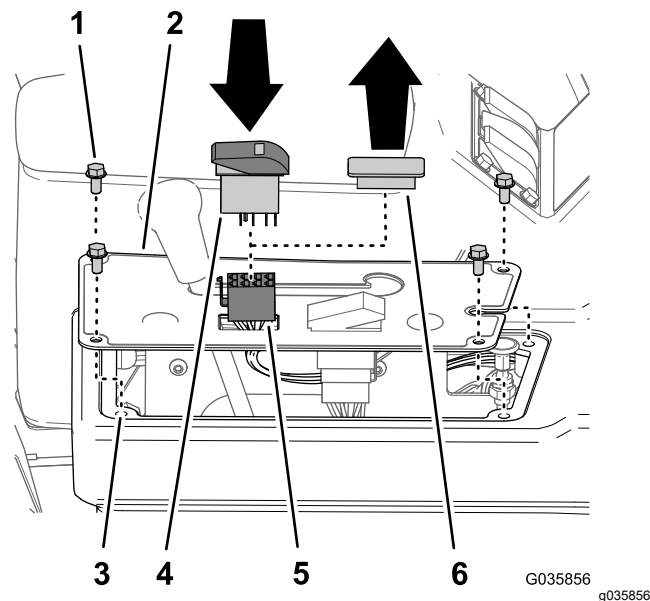

Figure 21
- If installed, remove the 4 flange-head bolts (1/4 x 1/2 inch) that secure the panel cover to the top of the console as shown in Figure 21.
- Remove the switch plug from the panel cover of the console (Figure 21).
- Align the Connect the 8-socket connector of the wiring harness of the ultra sonic boom finishing kit through the opening in panel cover (Figure 21).
4. Connect the 8-socket connector of the wiring harness of the ultra sonic boom finishing kit labeled SONIC MODE MANUAL VS. AUTO to the rocker switch (Figure 21).
5. Insert the rocker switch in the dash panel opening until the switch snaps securely (Figure 21).
6. Align the holes in the panel cover to the holes in the top of the console (Figure 21).
7. Secure the panel to the console with the bolts (Figure 21) that you removed in step 1.